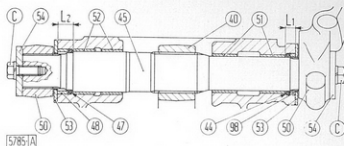

Fig. 267 - Section through Lift Cross-shaft
shaft has been altered as shown in Fig. 267, where M 14 × 1.5 retaining screw (C) is to be tightened to 15 kgm or 108 lb. ft.